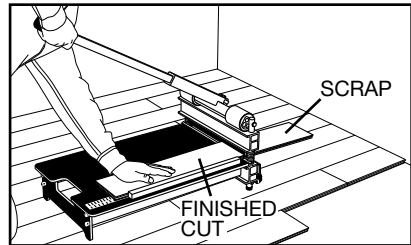
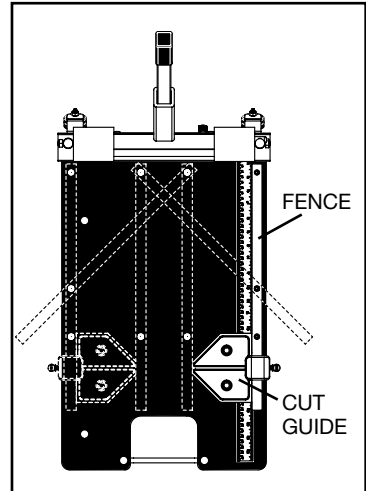

Figure 6
Figure 7
**MAKING CUTS:** Place the material to be cut on the bed of the cutter and slide it against the fence (see below and Figure 7) and beneath the blade. Keep hands away from the blade and out from under the blade carrier. Note that the blade produces the cleanest edge from its inner (bed facing) edge surface only. The cut piece remaining on the bed will be the finished cut, and the piece beyond the blade will be scrap (Figure 6).
Push down on the leverage handle with one hand, keeping the other hand on top of the material being cut. **HAND PRESSURE** should be used to power the cutter, not foot pressure, body weight, other weight, or impact on the leverage handle. Keeping a hand on the material prevents it from moving and ensures an accurate cut. Keep hands away from the blade, blade carrier, and pressure rollers at all times, and keep hands out from under the material being cut. Stay alert and watch the cutting process at all times. (See Figure 6.)
The fence of the cutter is movable to any one of four straight positions, or one of two 45° angle positions (Figure 7). Moving the fence helps position the material being cut under different areas of the blade, so that as areas of the blade become dull, other areas that are still sharp can be more easily used. Cutting under different areas of the blade also wears the sides of the cutter mechanism more evenly over time, extending the life of the tool. Cutting mostly under one side can wear out the cutter sooner.
To move the fence, remove the two wing nuts from beneath the bed, and remove the fence. Insert the fence into any pair of holes as shown in Figure 7, then reattach and tighten the wing nuts.
The cutter comes with a cut guide that attaches to the fence using a wing screw (Figure 7). The cut guide can be used to set a length of cut for repeating a length of cut. If the fence is moved to the left or right, the cut guide can be moved onto either side of the fence. The cut guide includes a 45° angle.